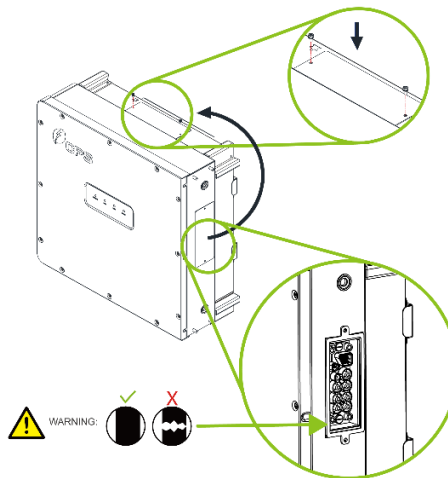
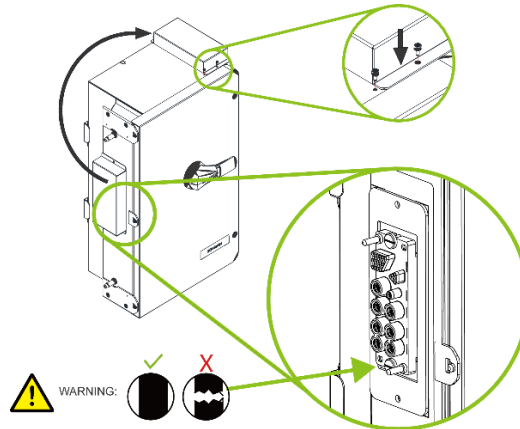
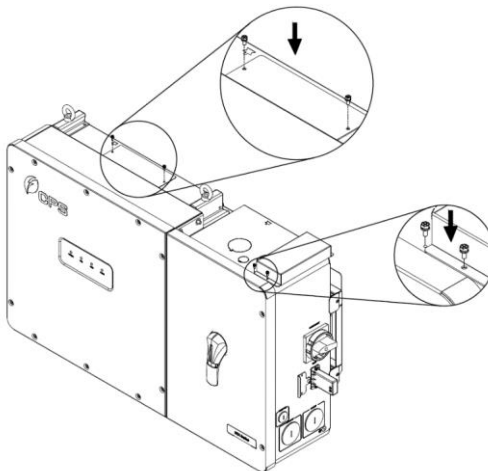

Figure 3-10 Remove the Cover of the Main Enclosure
Figure 3-14 Wire Box Cover
Figure 3-18 Attach Cover to Top of the Inverter
- a. Use the no. 2 Phillips head screwdriver to remove the cover plate on the right side of the main enclosure and save the screws and cover (Figure 3-10):
- a. Remove the connector cover on the left side of the wire box, saving the cover and screws (Figure 3-14):
- a. Attach the inverter's connector cover (Figure 3-10) and wire box connector cover (Figure 3-14) to the top of the inverter and wire box (Figure 3-18):